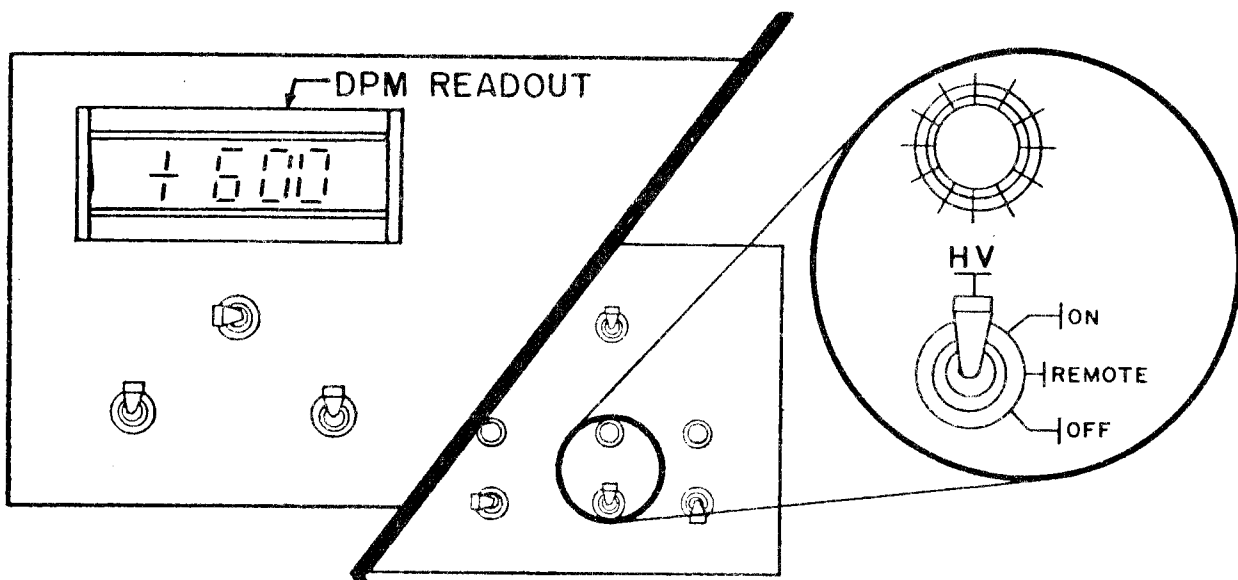

Figure 79. HV Switch to ON
- g. Wait thirty seconds after the POWER switch has been set to ON, then flip the HV switch to ON (see Figure 79). The DPM displays the magnitude of the current drawn by the load.